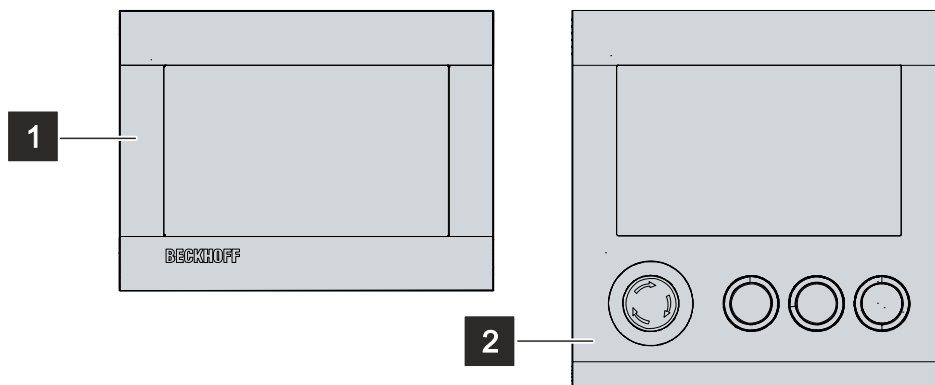

Fig. 1: Panel PC with and without push button extension
For explanations of the push button extensions and the functions, refer to the manual C9900-G070/G071. Figure 1 shows an example of the panel PC without (1) and with (2) push button extension.